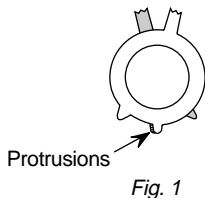

Fig. 1
*The parts above (① ~ ③) are necessary for DAS adjustment.
- (1) Receive an image of the white crosshatch signals (white lines on black).
- (2) Place the protrusions of the 6-fold poles magnet attached to the CRT neck upon each other. (Fig. 1)
- (3) Make rough adjustment of the H and V direction convergence by using 4-fold poles magnet.
- (4) Make a rough adjustment of the V direction convergence by using "V. STAT".